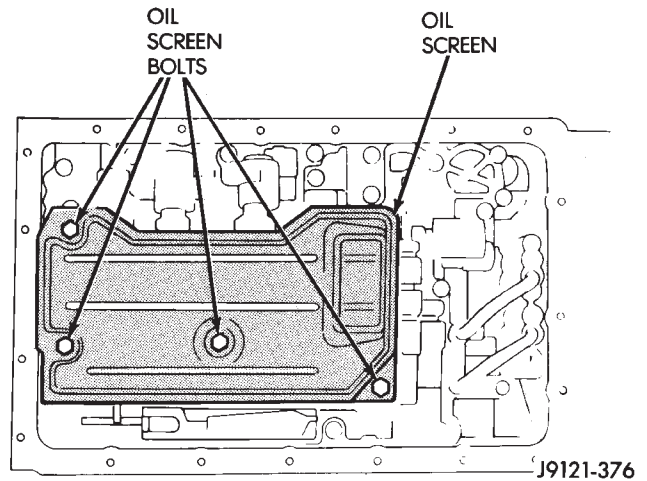

Fig. 85 Removing Oil Screen
- (7) Remove adapter housing, speedometer drive gear, and speed sensor rotor.
- (8) Remove transmission oil pan, oil screen and screen gaskets (Fig. 85).